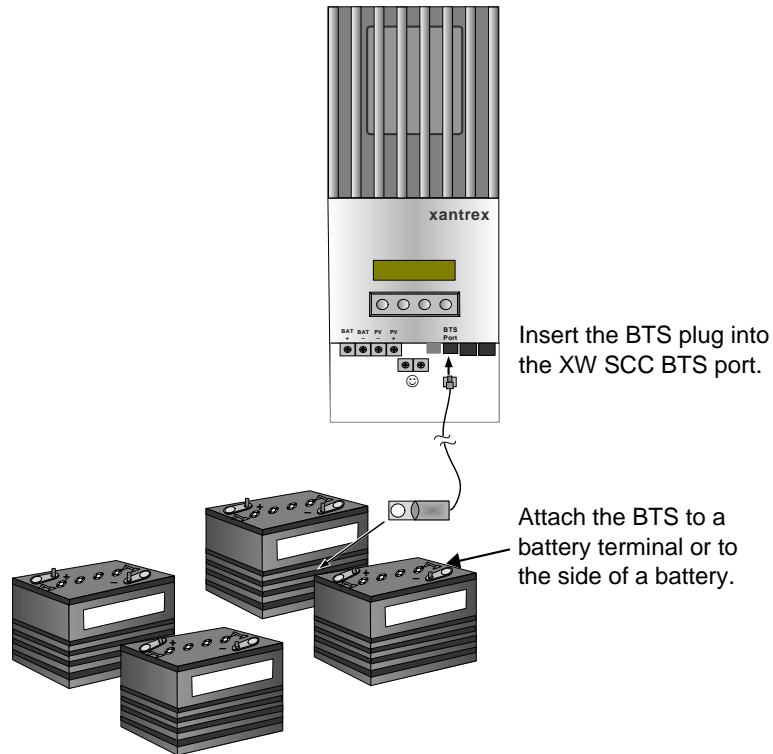

Figure 2-15 Installing the BTS
4. Pass the end of the BTS cable through a conduit hole on the XW SCC and insert the BTS plug into the BTS port. See Figure 2-15.